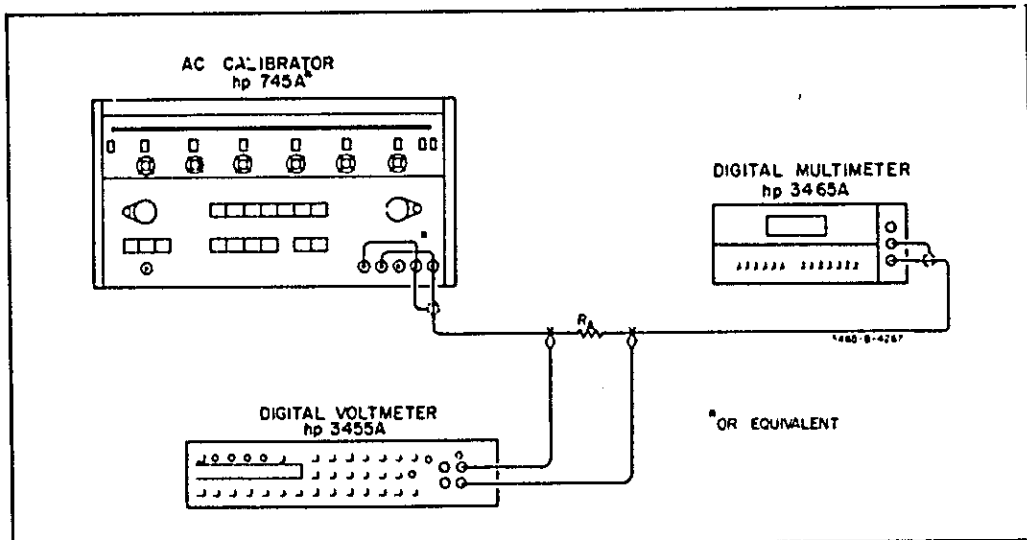

Figure 5-3. AC Ammeter Accuracy Test 200 μ A Through 20 mA Range.
a. Set the Multimeter function to ACA (\sim A) and range to 200 μ A. Connect the equipment as shown in Figure 5-3 using a discrete resistor for R_A. (To select R_A, note the
- f. Reconnect the 3455A Digital Voltmeter as shown in Figure 5-3.